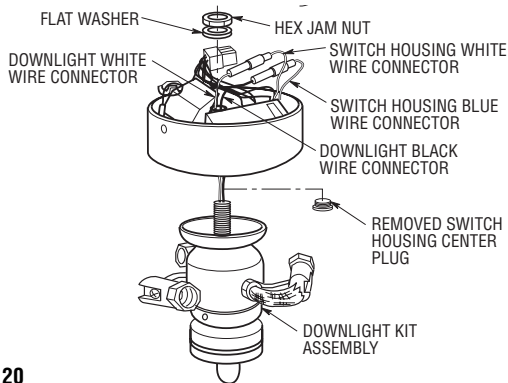

Figure 20
- 2. Slide the two connectors and wires from the downlight kit assembly into the switch housing hole (Figure 20).
- 4. Connect the downlight kit assembly black wire connector to the switch housing blue wire connector. Connect the downlight kit assembly white wire connector to the switch housing white wire connector (Figure 20).